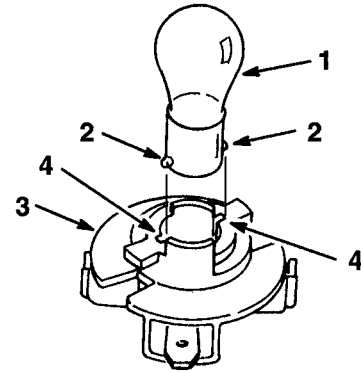

Figure 32
4. Push and rotate the bulb counterclockwise until it stops (approx. 1/4 turn) and remove bulb from the bulb holder (Fig. 32).
1. The bulb has metal pins on the side of its base. Align the pins with the slots in the bulb holder and insert the base into the holder (Fig. 32). Push and rotate the bulb clockwise until it stops.